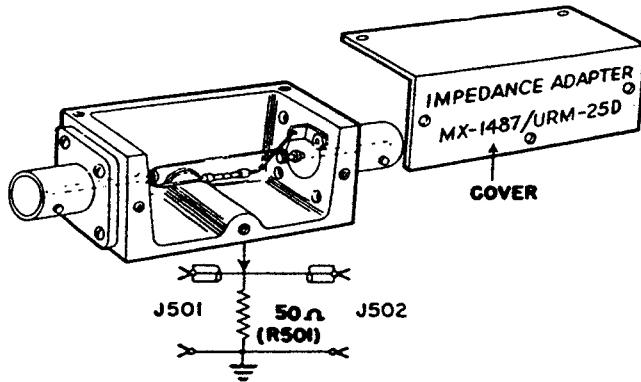

Figure 4-3. Impedance Adapter MX-1487/URM-25D
a. When the 50 ohm cable assembly (W104) is plugged into the X-MULT RF OUTPUT jack (J102) and terminated properly (50 ohms), no standing waves will be present. An impedance adapter MX-1487 URM-25D consisting of a 50 ohm composition resistor (R501), contained in a rectangular aluminum case (figure 4-3)